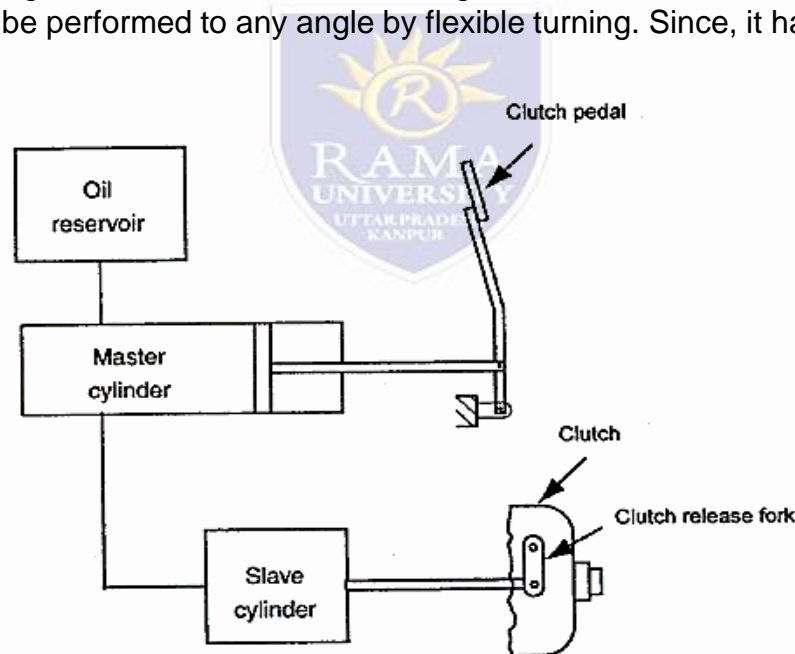

Figure 3.12 Hydraulic operated clutch
- Figure 3.12 shows the line diagram of hydraulic clutch. It consists of a master cylinder and a slave cylinder and an oil reservoir. When the clutch pedal is pressed, the fluid under pressure from the master cylinder reaches the slave cylinder. The slave cylinder is mounted on the clutch itself. The fluid actuates the slave cylinder push rod which further operates the clutch release fork to disengage the clutch. The hydraulic system is designed to multiply the driver's efforts so that a light force applied to the foot pedal produces a much greater force on the clutch fork. A small piston in the master cylinder travels a relatively long distance with only a low input force. It moves the larger piston in the slave cylinder for short distance in transmitting a greater force. Another advantage is that no mechanical linkage is required. Only hydraulic lines are required. These lines can be performed to any angle by flexible turning. Since, it has no mechanical linkage